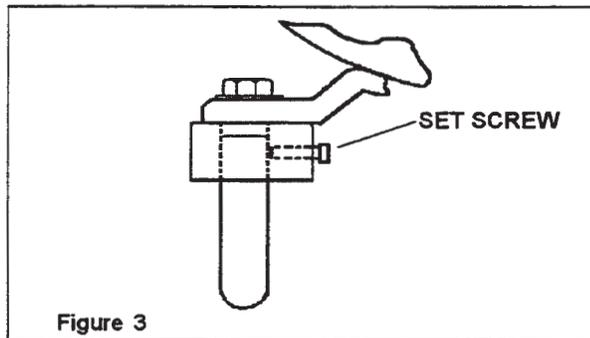

Figure 3
- Level the pump by loosening the set screws to adjust the length of the legs. (Figure 3)